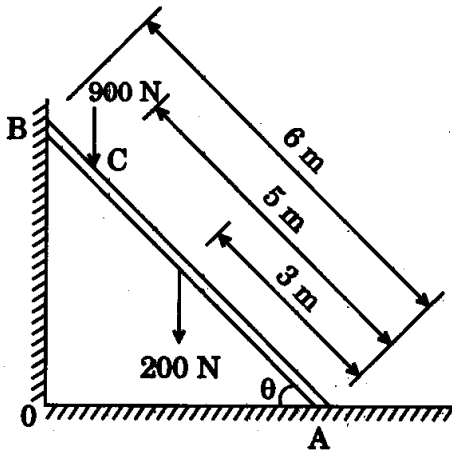

Figure 9
8. (a) The ladder shown in Figure 9 is 6 m long and is supported by a horizontal floor and a vertical wall. The coefficient of friction between the floor and the ladder is 0.4 and between the wall and the ladder is 0.25. The weight of the ladder is 200 N. The ladder also supports a vertical load of 900 N at C which is at a distance of 1 m